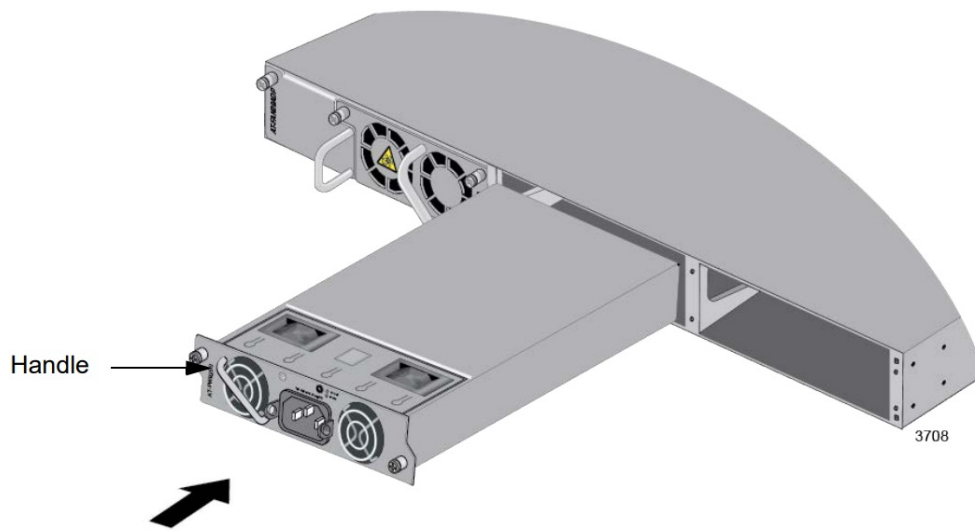

Figure 22. Installing a Power Supply
5. Slide the new power supply into slot A or B in the back panel of the switch. Refer to Figure 22 on page 71.
- The handle on the power supply should be on the left as you install the module in the switch. Refer to Figure 22 on page 71.